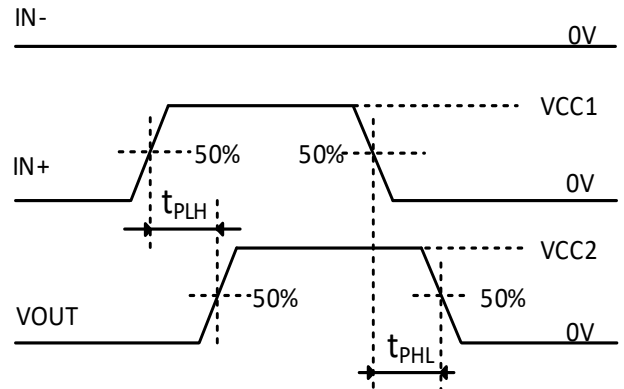

Figure21. Propagation delay time waveform measurement
(1) tPLH = low-to-high propagation delay time, tPHL = high-to-low propagation delay time. See Figure21.